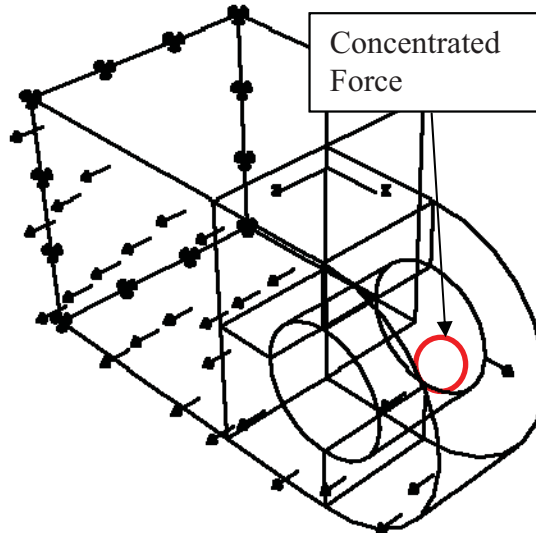

Figure 6–6
- Select the back face of the hinge shown in Figure 6–6 as the region which will be fixed during the analysis. By default, Abaqus/CAE selects only objects that are closest to the front of the screen, and you cannot select the desired face unless you rotate the hinge. However, you can use the selection options to change this behavior.